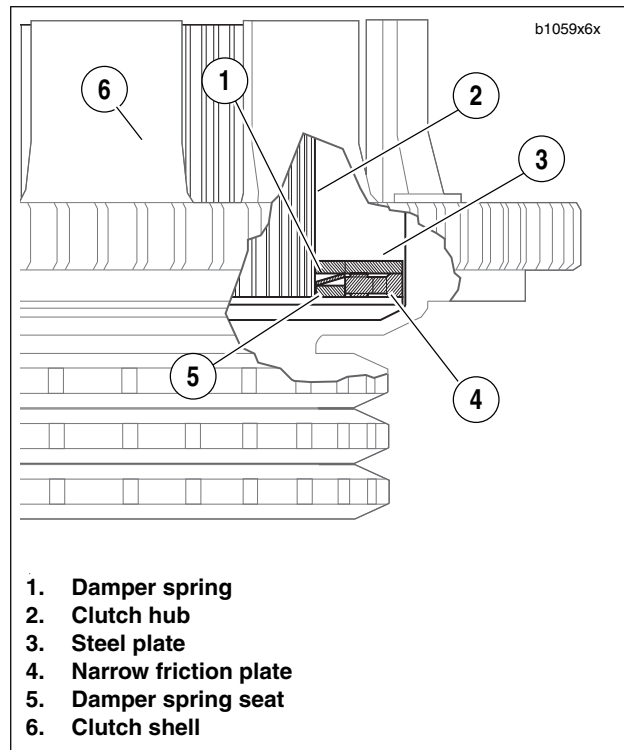

Figure 6-20. Clutch Pack Stack-Up (Cut-Away View)
3. See Figure 6-20. Install damper spring seat (5) on clutch hub so that it seats inboard of narrow friction plate (4).
4. Install damper spring (1) on clutch hub with the concave side up (facing opposite damper spring seat).